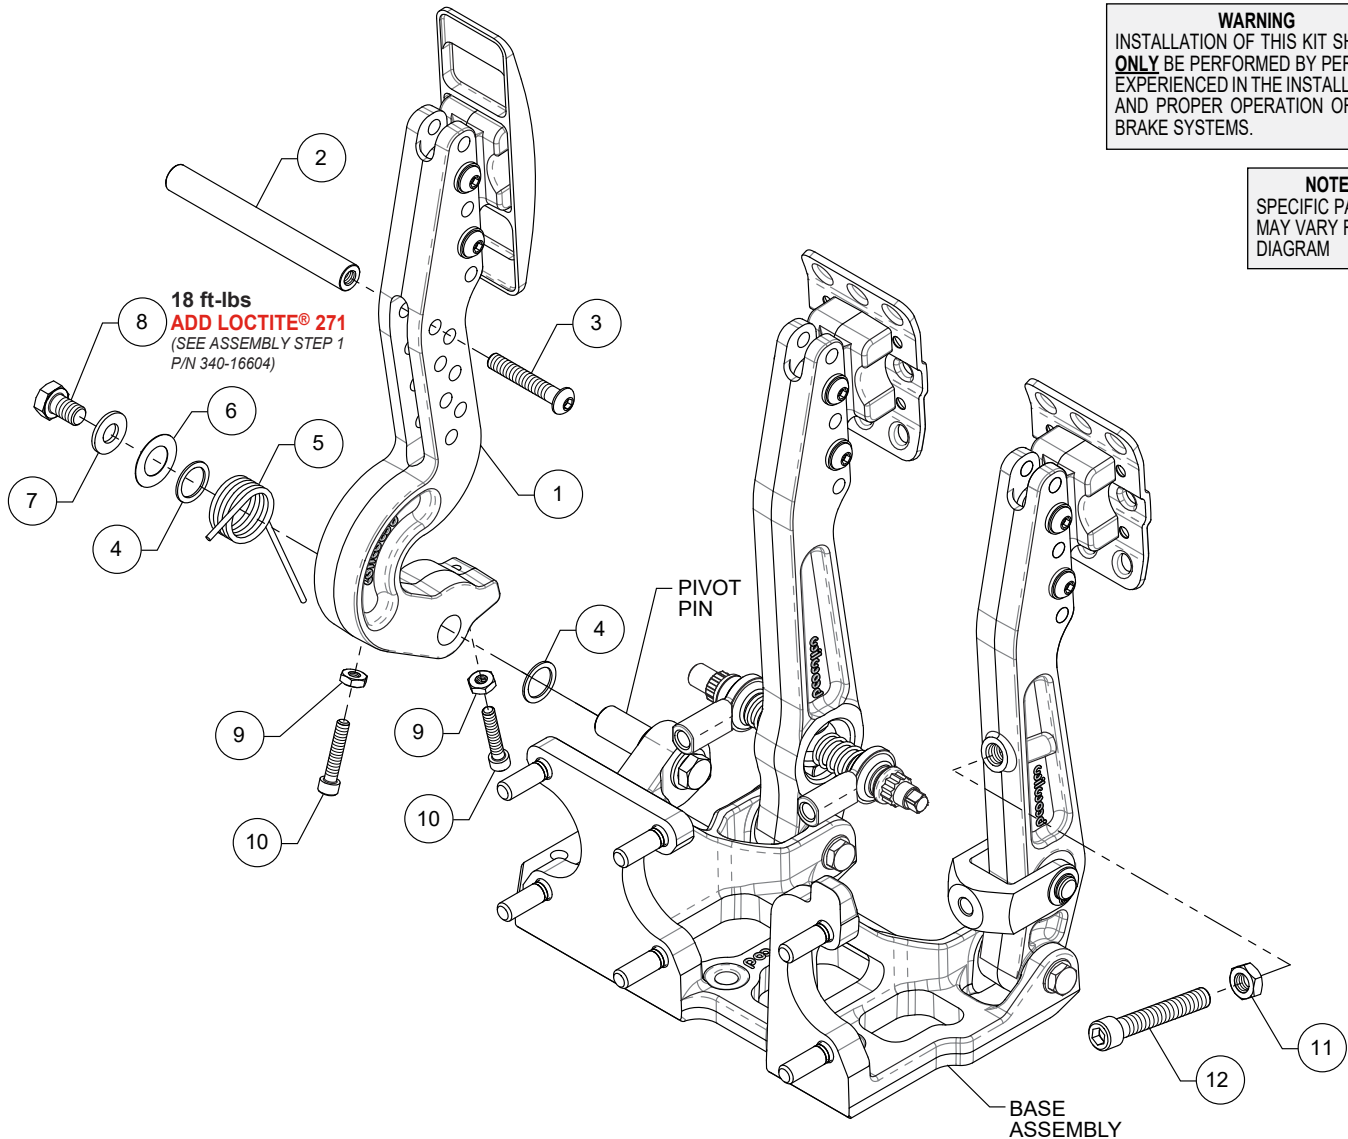

Figure 1. Throttle Pedal Assembly Configuration for Pedal Assembly p/n's 340-16604 and 340-16605
NOTE: Numbers in parenthesis refer to the parts list and Figure 1 on page 3.
STEP 1 Slide nylon shim (4) and then throttle pedal (1) onto pivot pin of base assembly. Install pedal return spring (5), then secure using nylon shim (4), wave washer (6), washer (7) and bolt (8), as shown in Figure 1. Apply red *Loctite*[®] 271 and torque to value shown in Figure 1.
STEP 2 Screw the throttle pedal stop bolts (10) into nuts (9) and then into the throttle pedal (1), front and rear. **NOTE:** Final adjustment of the stop bolts will be performed after pedal installation in vehicle.
STEP 3 Screw the clutch stop bolt (12) into nut (11) and then into the clutch pedal, as shown in Figure 1. **NOTE:** Final adjustment of stop bolt will be performed after pedal installation in vehicle.
STEP 4 **NOTE:** For rear engine installation only: Install the rear throttle pull rod (2) to the throttle pedal (1) using bolt (3).